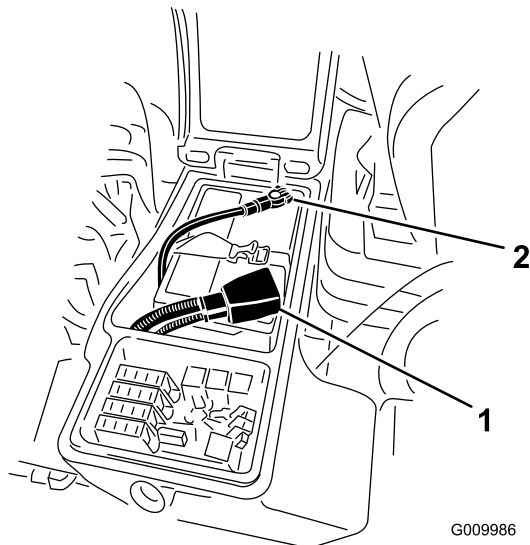

Figure 48
3. Remove the negative cable (black) from the negative (-) terminal and the positive cable (red) from the positive (+) terminal of the battery (Figure 48).
6. Install the positive cable (red) to the positive (+) terminal and the negative cable (black) to the negative (-) terminal of the battery (Figure 48).